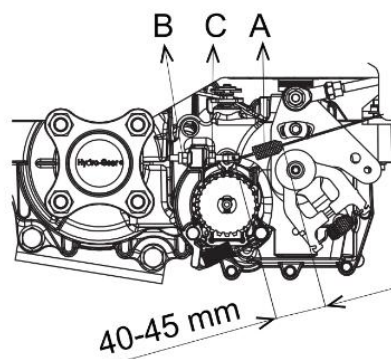

Fig. 24
- Locate the brake spring (A, Fig. 24).
- Place both steering levers in swing-out (neutral position). Gears in the brake arm (B) meshed into the gears of the brake disk.
- Measure the length of the spring with the parking brake engaged. If the spring is not within this range, release the parking brake and turn the adjustment nuts (B and C, Fig. 24) to compress or release the spring.